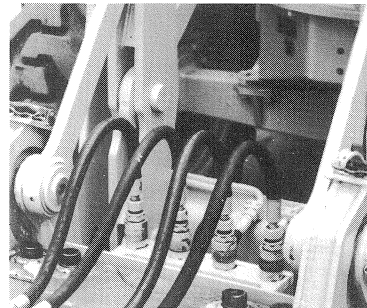

Fig. 38
- (2) Remove dust protecting caps from the rapid-action couplings. Connect rapid actions couplings of the hoses with the rapid-action couplings in the shovel arm (Fig. 38). Pay attention to colour marking.